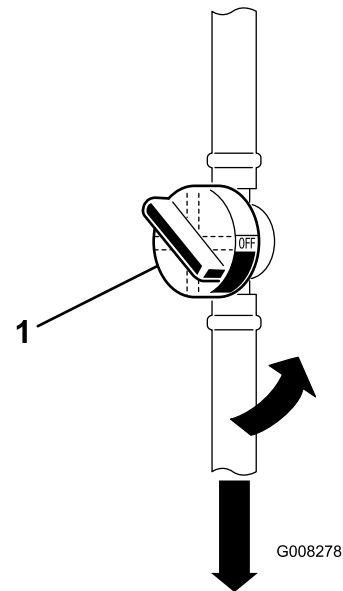

Figure 30
5. Close the fuel shut-off valve (Figure 30).
7. Squeeze the ends of the hose clamps together and slide them away from the old fuel filter (Figure 30).